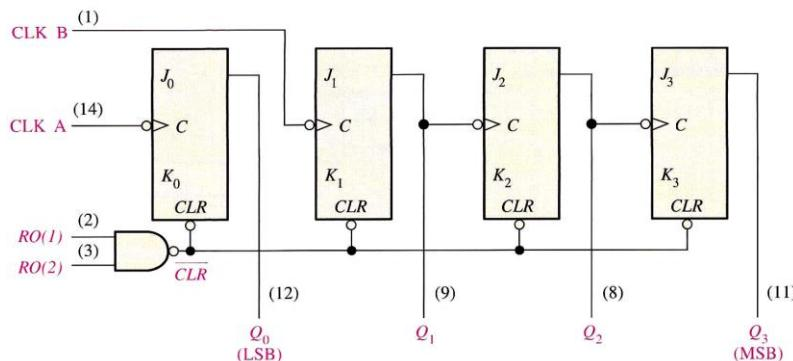

Fig. 5.13
Fig. 5.13 shows the internal logic diagram of 74LS93 counter IC. This device consists of a single flip-flop and a 3-bit asynchronous counter. This arrangement is for flexibility. It can be used as a divide by-2 device if only the single flip-flop is used, or it can be used as a modulus-8 counter if only the 3-bit counter portion is used. This device also provides gated reset inputs, RO(1) and RO(2). When both of these inputs are HIGH, the counter is reset to the 0000 state.